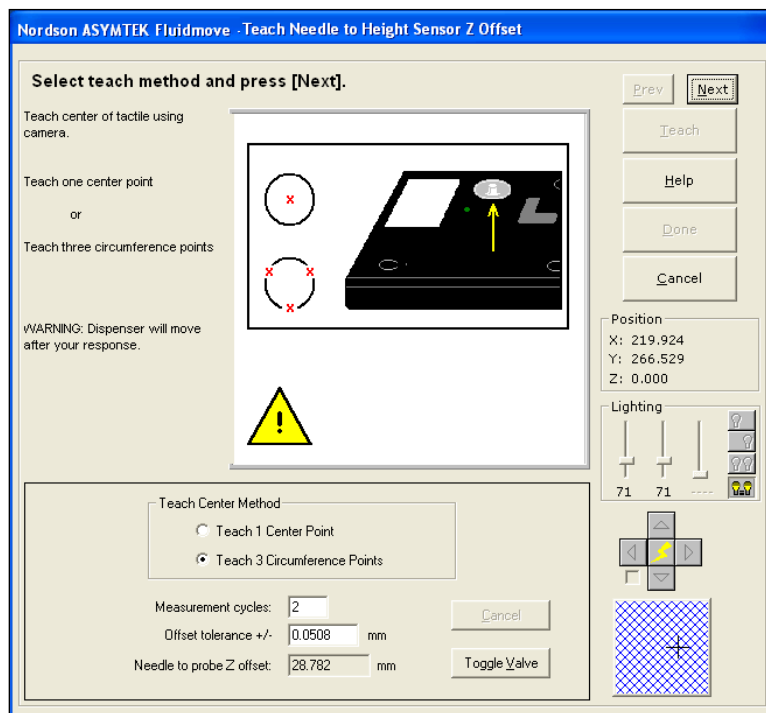

Figure 4-9 Needle to Height Sensor Z Offset
1. Select the Teach Center Method (Figure 4-9).